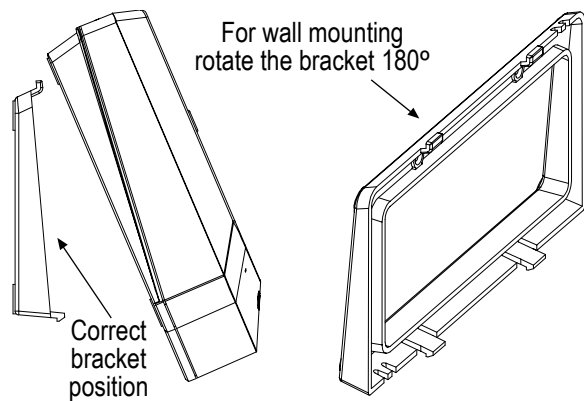

Figure 7a
1. Rotate the bracket 180° before mounting on wall, as shown in Figure 7a.